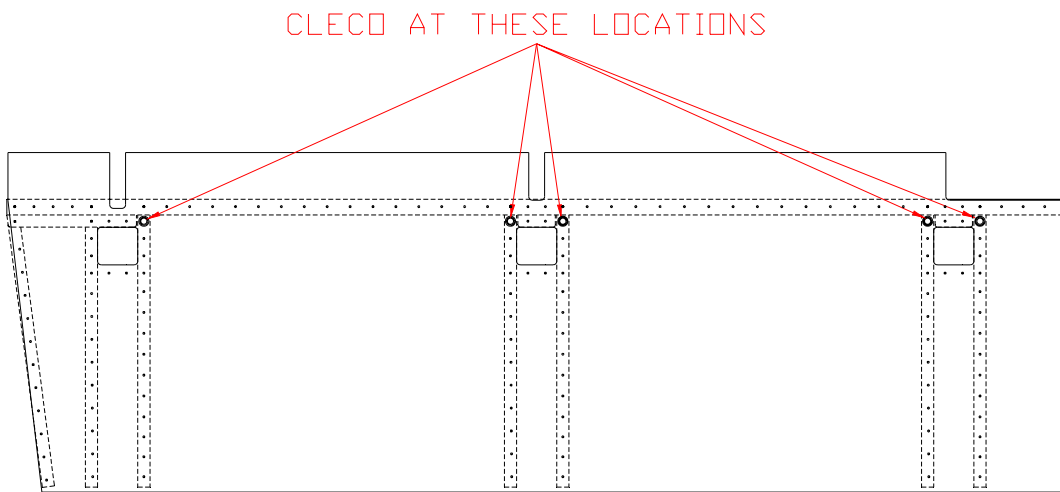

Figure 4.2.2
2) Position the Rudder Skin over the Spar/Rib assembly, cleco the Skin to the Ribs using the prepunched alignment holes. Figure 4.2.2.